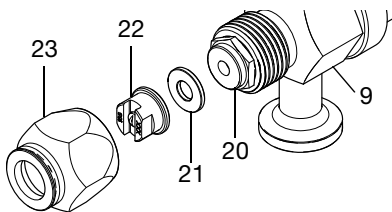

Fig. 4: Spray Tip
3. Tighten the tip retaining nut (23) to secure the tip in place. See FIG. 4.